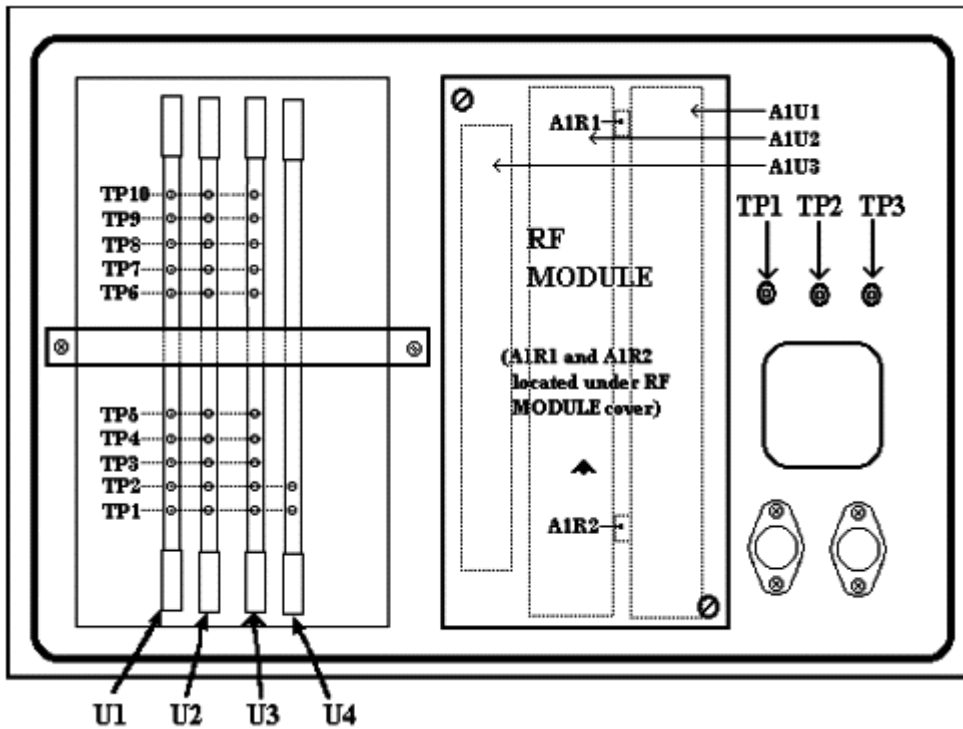

Figure 2. Test instrument – rear view.
(1) Set TI **POWER** switch to **OFF** and remove the housing from the RF MODULE (fig. 2) as listed in (a) through (c) below.
(a) Disconnect the three RF cables from side of RF MODULE (fig. 2).
(b) Release the two hold-downs at opposite corners of module and gently lift RF MODULE (fig. 2) A1 from its connector.
(c) Replace RF MODULE (fig. 2) into its chassis assembly and reconnect the three RF cables.
(6) Adjust A1R1 (fig. 2) until **ACCEPT/REJECT** indicator just changes from **REJECT** to **ACCEPT (R)**.
- (1) Set TI switches as listed in (a) through (d) below:
- (2) Connect peak power meter to TI **RADIATED TEST ANTENNA** connector.
- (3) Measure pulse power output of TI. If measured output power is not between -5 and -7 dBm, perform **b** below.
**b. Adjustments.** Adjust A1R2 (fig. 2) until power meter indicates -6 dBm. Reinstall RF module cover (R).